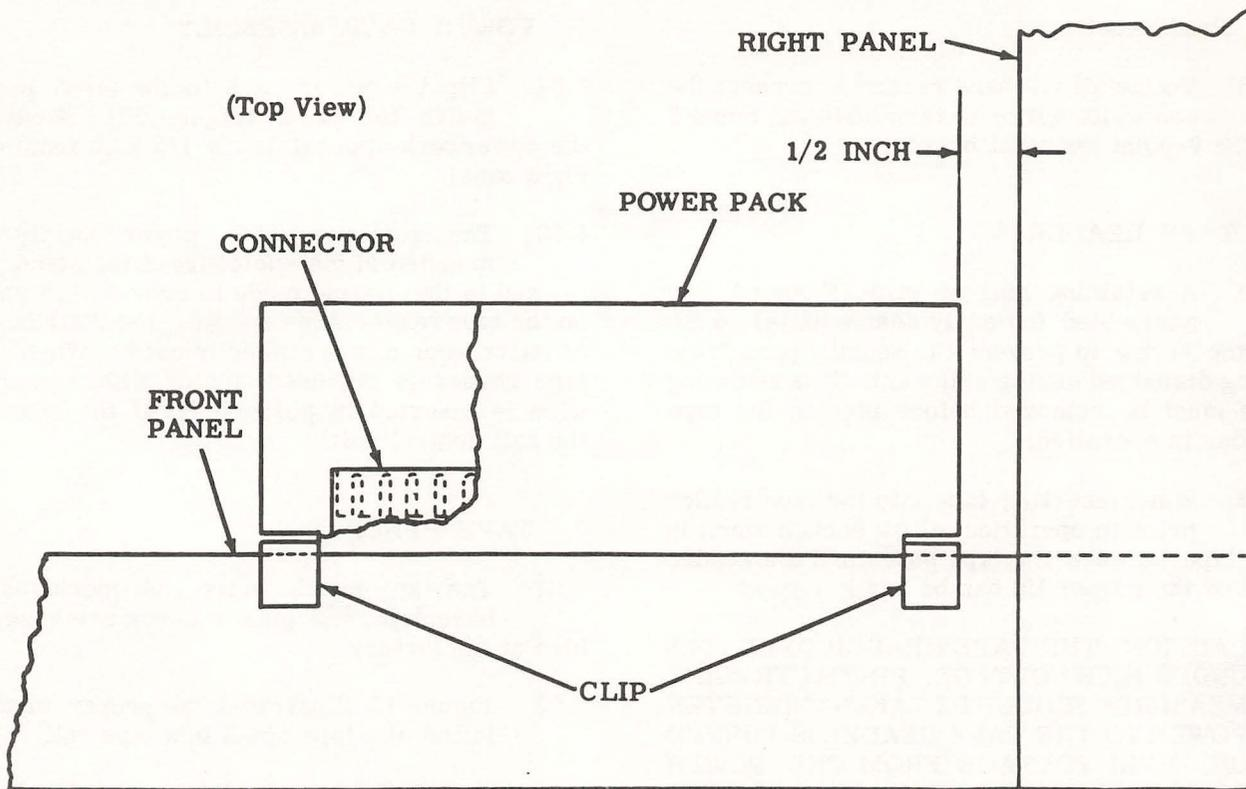

Figure 12 - Power Pack Assembly
6.01 Clip the power pack to the front panel inside the stand (Figure 12). Position the power pack approximately 1/2 inch from the right panel.